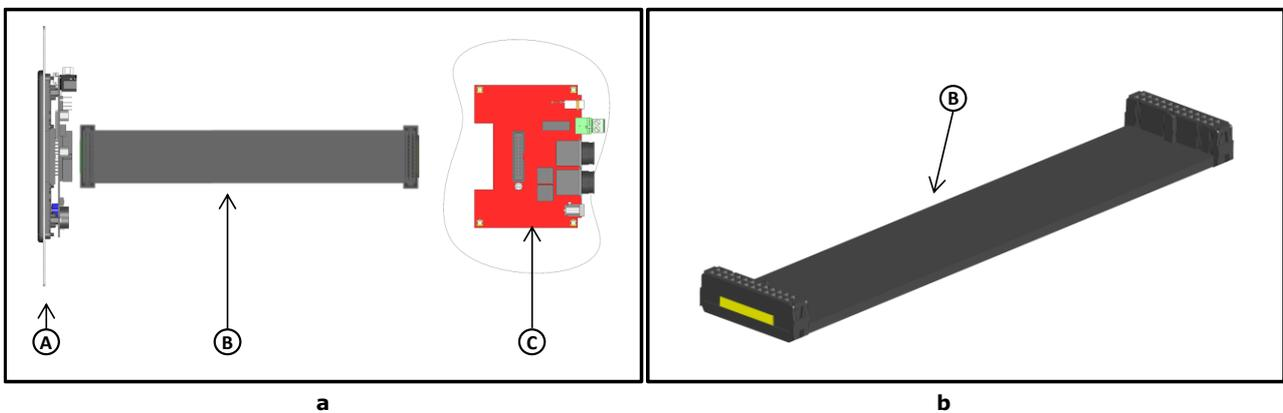

Figure 82. Communication cable (a) Communication cable connections; (b) Communication cable, 3D view.
4. Connect the communication cable to the control board (pointer C in Figure 82(a)) and to the display (pointer A in Figure 82(a))